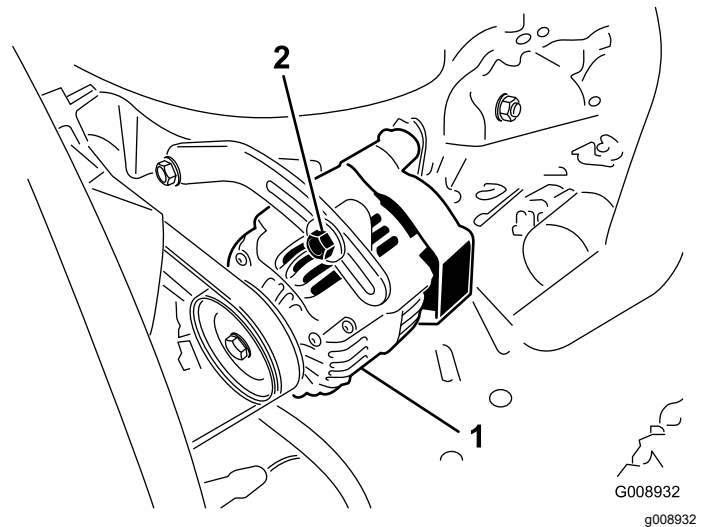

Figure 78
Check the condition and tension of the belts (Figure 78) after every 100 operating hours.
2. If the deflection is not 10 mm (3/8 inch), loosen the alternator mounting bolts (Figure 78).